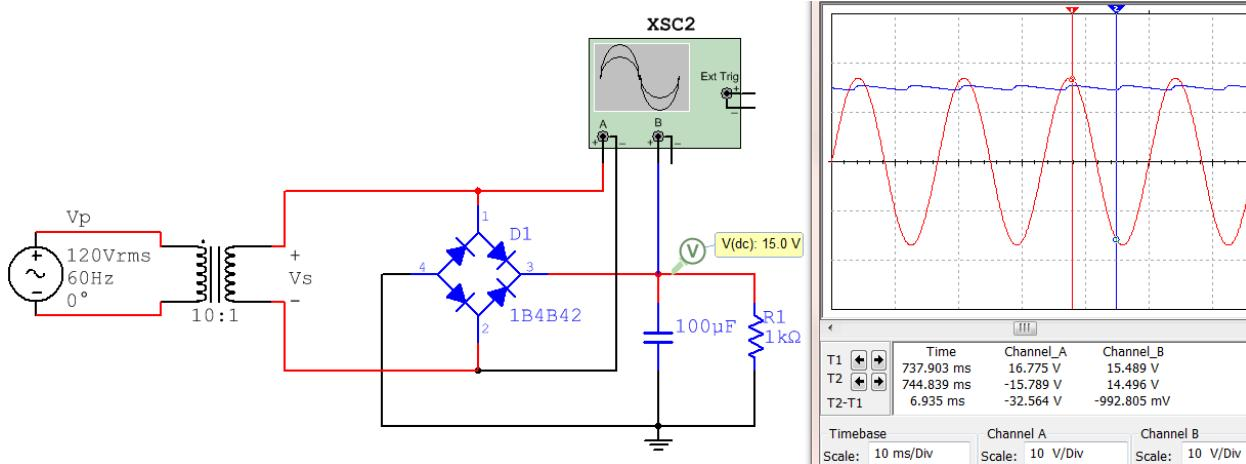

Figure 6.17: Full-Wave Peak Bridge Rectifier.
- Full-Wave Peak Bridge Rectifier (See Figure 6.17)
- **V_s** = peak input voltage = $120\sqrt{2}/10 = 16.97 \text{ V}$ (16.775 V in Figure 6.17).
- **V_{o,pk}** = peak output voltage = $V_s - 2 \cdot 0.7V = 15.57 \text{ V}$ (15.49 V in Multisim - Figure 6.17).
- **V_r** = ripple voltage ($V_{o,pk} - \text{minimum } V_{out}$) = $\frac{V_{o,pk}}{2fRC} = \frac{15.57}{2 \cdot 60 \cdot 1k \cdot 100\mu} = 1.3 \text{ V}$ ($\sim 1\text{V}$ in Figure 6.17).
- **V_{o,dc}** = the approximate DC voltage of the output (centerline of the ripple). In Figure 6.17 $v_{o,dc}$ is equal to $15.57 - 0.5 \cdot V_r = 14.92 \text{ V}$. The DC voltage probe in Figure 6.17 measures the DC voltage as 15 V.